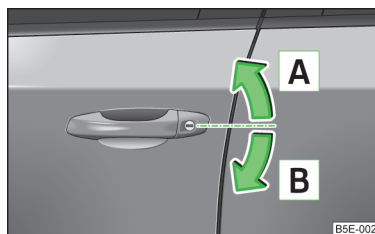

Fig. 12
- Turn the key in the locking cylinder of the driver's door in the direction of arrow **A** » Fig. 12.
- Turn the key in the locking cylinder of the driver's door in the direction of arrow **B** » Fig. 12.